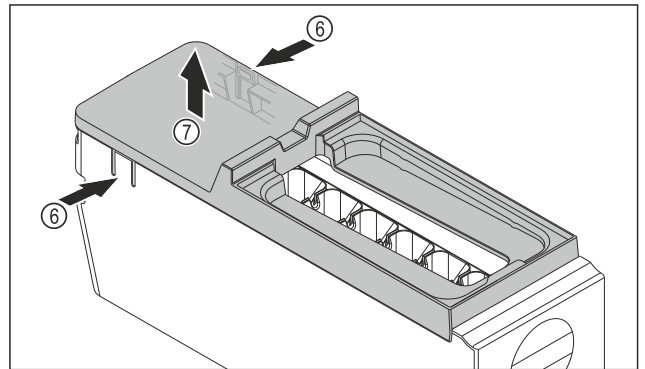

Fig. 122
- ▶ Removing the EasyTwist-Ice body cover: Push the tabs Fig. 122 (6) on both sides of the EasyTwist-Ice body with one hand.
- ▶ Use the other hand to remove the cover Fig. 122 (7) upwards.